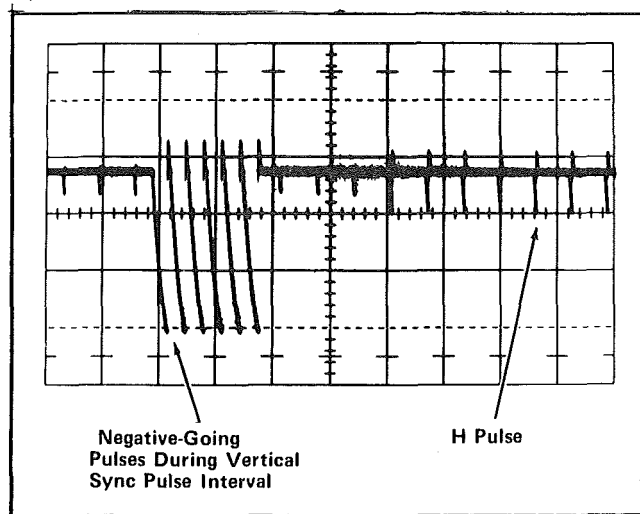

Fig. 1. Normal 525/60 waveform at TP926. Vertical deflection factor is 2 V/div; time/div is 50  $\mu$ s.
b. Adjust the Clipping Level control R914 by rotating the control fully clockwise. Then, rotate the control counterclockwise until one or more negative-going pulses in a group are displayed on the test oscilloscope during the vertical sync pulse interval. The exact number of pulses is dependent on the television standard of the composite video signal being applied to the vertical plug-in unit. Fig. 1 shows a normal display obtained for the 525/60 television standard. The pulse amplitude is approximately 4 volts negative below the H pulses. If R914 is improperly adjusted, the H rate trigger will not be normal during the vertical sync pulse interval.